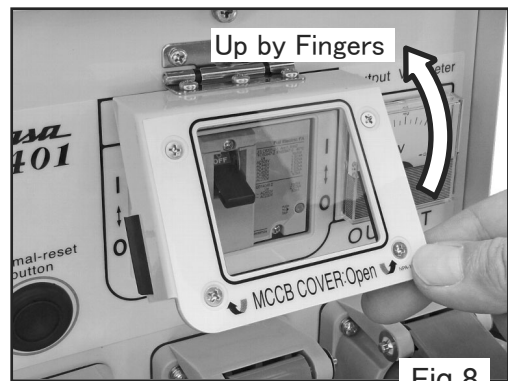
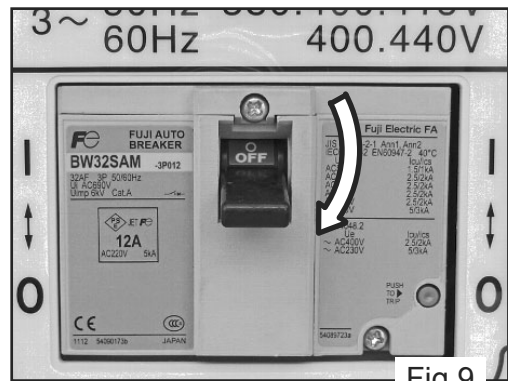

Fig.8
Fig.9
- 8.3 Open the switch cover, and turn off the switch of the main switch (MCCB). (Fig.8. Fig.9)